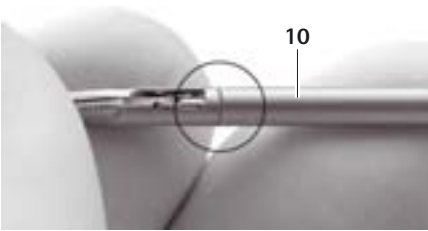

Fig. 7
- Ensure that outer tube **10** is pushed over inner tube **9** with working insert **7** to the positive stop, see Fig. 7.